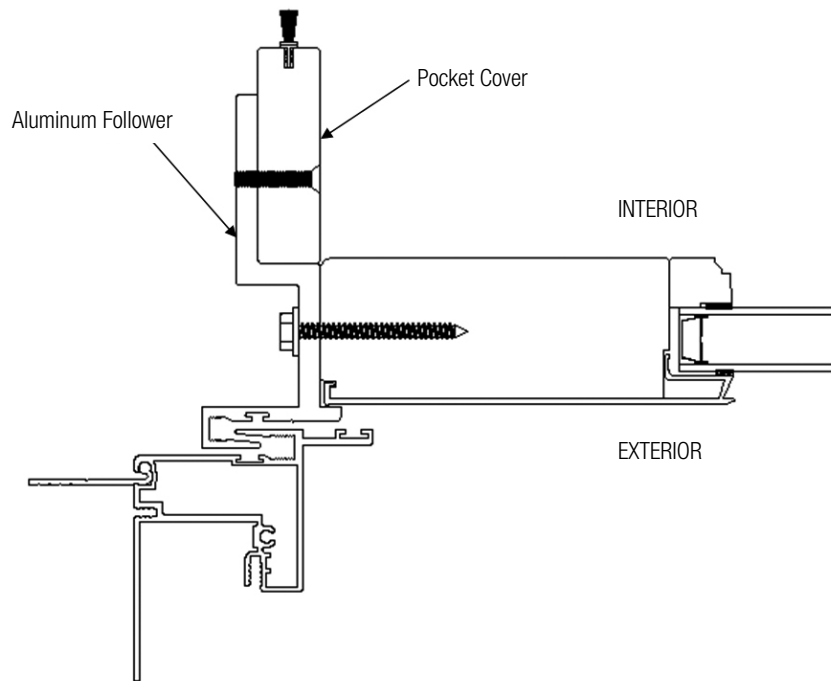

FIG. 19
- B) Attach the panel follower trim to the aluminum follower using the supplied screws in the “Interlock” screw package. (Fig. 19)